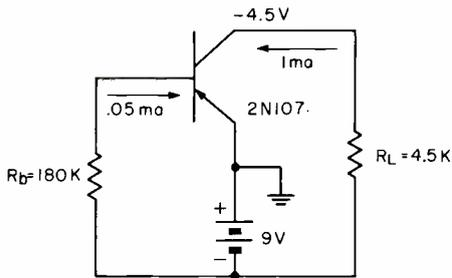
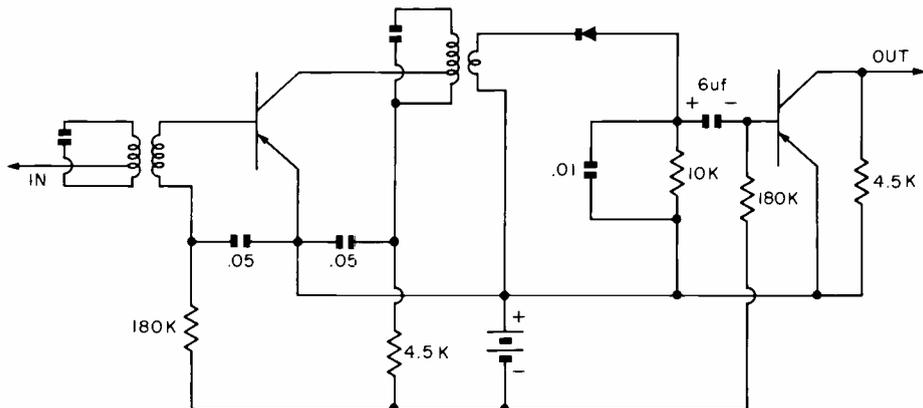

FIG. 5. Simple audio amplifier.
FIG. 6. I-F and af amplifier.
linear operation. The final circuit is shown in Fig. 5.
Fig. 6 shows an i-f amplifier, diode detector and the af amplifier of Fig. 5. Notice that the same value base and collector resistors are used here as in the audio amplifier. This is only to establish the same operating point, since both resistors are bypassed with capacitors. The transformers are the input source and collector load for the i-f signal, not the resistors.
**Transistor Circuits.** We have already looked at some typical transistor circuits in Figs. 5 and 6. As noted earlier, the i-f amplifier circuit is not exactly as you would encounter it in an actual circuit. More elaborate bias arrangements will be used and most PNP i-f stages will require neutralization to operate properly. NPN amplifiers usually have less junction capacity and do not always require neutralization.
The i-f transformer of Fig. 6 is single tuned with a tapped primary. Vacuum tube circuits would normally use a double tuned untapped transformer in the same application. The transistor transformer is tapped to prevent the low output resistance of the transistor from loading the tuned circuit too much. At the same time, the tap is located so the response will be broadened enough without using a double-tuned transformer. The base (or diode detector) is link coupled to the tuned circuit. The extremely low input impedance of a transistor would load a tuned circuit so much that no signal would pass if the secondary were tuned and even tapped. All this results in fairly low gain through the stage with a rather wide bandwidth. In order to get enough gain, most transistor radios use two or more i-f amplifiers.